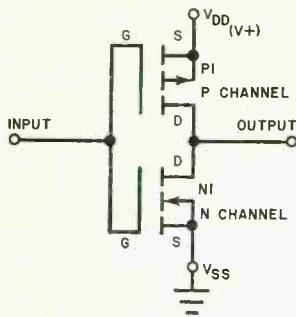

Fig. 1. Basic CMOS stage consists of an n-channel and a p-channel MOSFET. Input impedance is high; while the output impedance is low.
A CMOS amplifier stage is shown in Fig. 1. This is the most basic form of CMOS circuit and is functional as shown. Using just two transistors as an amplifier seems unusual; but, in fact, this circuit will serve in a variety of digital and linear applications, as we shall see later.
In Fig. 1, PI is the p-channel device, and NI is the n-channel part. This is an inverting amplifier with both units operating in the common-source mode so PI's source goes to the supply, while NI's source goes to ground. In MOS language,  $V_{DD}$  is the positive supply and  $V_{SS}$  the negative supply voltage. These are simply new terms—one for what we have previously known as  $V_+$  and the other for the normal ground.
**CMOS in Digital Applications.** Digital use of an amplifier implies operation in a switching mode, an ideal application for CMOS. In the inverter of Fig. 1 for example, if the input is low or near ground,  $N1$  will be completely off and  $P1$  completely on. So  $P1$ 's resistance is at its lowest point of about 500 ohms, and  $N1$  is effectively an open circuit. Under these conditions, the output pulls up to  $V_{DD}$ , since it simply looks like a 500-ohm resistor to  $V_{DD}$ . So the high logic